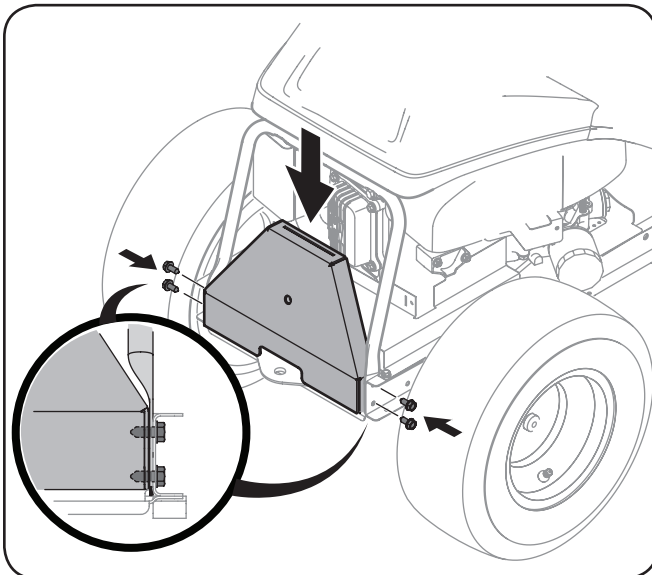

Figure 4-2
2. Install the bagger mounting bracket on the tractor, using four 710-3296 hex bolts from hardware pack 683-05063. Feed each hex bolt through the tractor frame, the rear hood mounting tube, and thread into the weld-nut on the bagger mounting bracket, as shown in Figure 4-2.